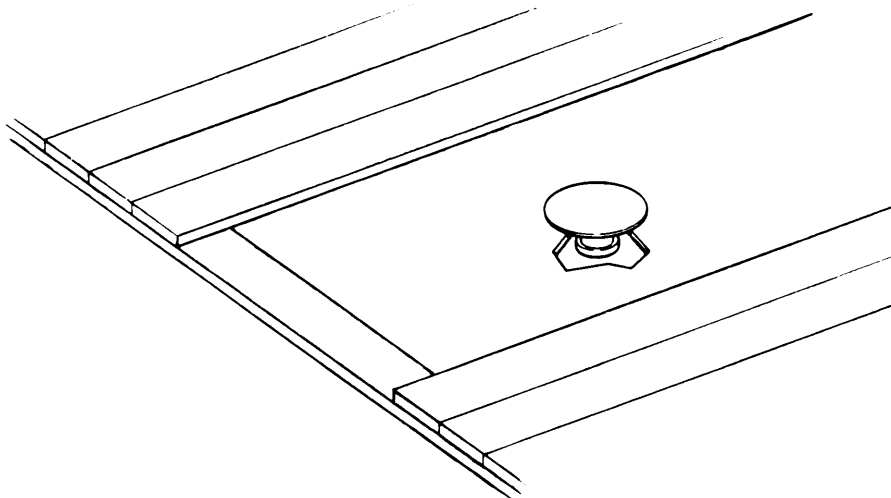

Figure 5-9. Kingpin
- (1) Remove middle metal plate to gain access to the top surface of the kingpin (fig. 5-9).